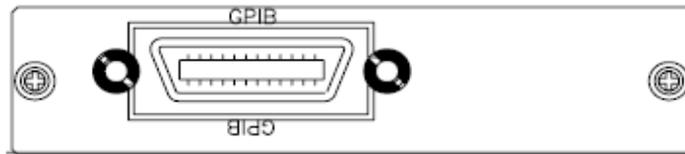

Fig 2-5 3300F REAR PANEL
- Please make sure the lock screws are firmly hand-tightened, use a screwdriver only for the removal of screws. Fig 2-5 shows the rear Panel of 3300F mainframe, The GPIB address of the 3300F mainframe is Set on front panel.